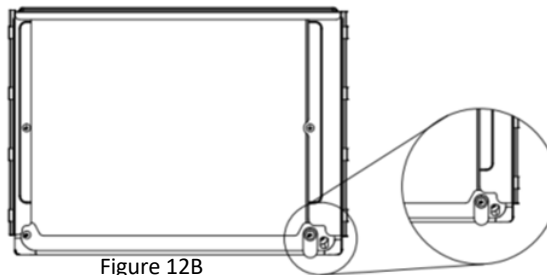

Figure 12B
- b. Remove the drainage gasket from the body base plate (Figure 12B).